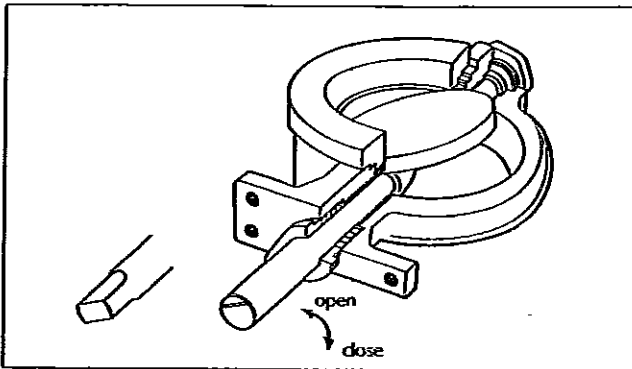
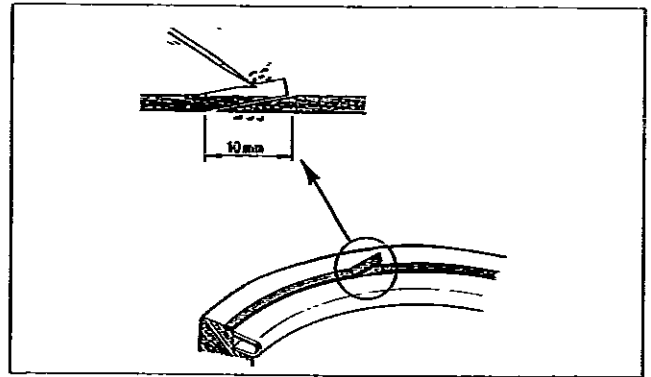

Fig. 10. Open and closed positions of the valve
Fig. 11. Mounting the body seal
The marking line parallel to the disc on the valve shaft head shows roughly the closed position of the disc (see Fig. 10).
- Mount a new, self-adhesive body seal (19) into the body. The surface must be clean and free of grease. Handle the ends of the seal according to Fig. 11.
- Centre the seat ring (4) carefully into its groove and turn the disc to maintain light contact with the seat.
- Mount the clamp ring and tighten the screws (27) lightly.
- Tighten the screws (27) crosswise and evenly. Recommended torque values for screws are listed in Table 4. An unevenly tightened flange may damage the seat ring. The screw heads must be below the flange surface in lug type valves.
- Check the position between the seat ring and the disc. The valve closes clockwise (see Fig. 10).
- Press the shafts into the disc drillings. Align the pin holes. The shaft (11) position against the disc must be according to Fig. 10.
- Install the gasket (18) and the blind flange (10). Screws of the blind flange must be tightened evenly. An unevenly tightened flange will damage the seat.
- Install the body seal (19) and the clamp ring (2). See details in Section 5.4.
- Check the contact line between the seat ring and the disc (see Fig. 10).